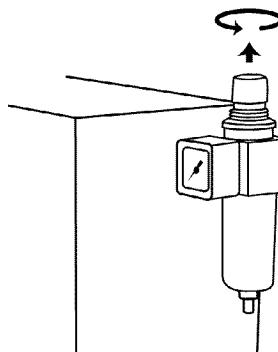

Figure 4
1. Before attaching the air supply to the plasma cutter, pull out the air pressure regulator knob and turn it fully counter-clockwise. This will set the regulator to its lowest pressure. (see Figure 4)